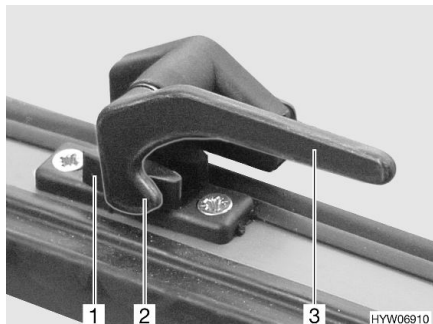

Fig. 27 Catch lever in "closed" position
- Turn the catch lever (Fig. 27,3) a quarter turn towards the centre of the window.
- Turn the catch lever (Fig. 27,3) a quarter turn towards the window frame. The locking catch (Fig. 27,2) is located on the inside of the window catch (Fig. 27,1).
- "Firmly closed" (Fig. 27)